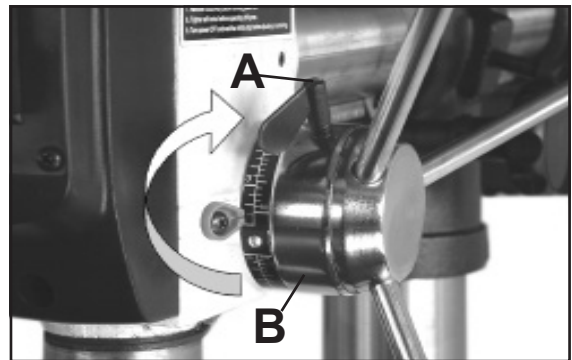

Figure 25
- Loosen the depth stop collar lock (A-Fig. 25) as shown.
- Turn the depth stop collar clockwise until the collar stops (B-Fig. 25).
- With the spindle in the up position, loosen the depth stop collar lock (A-Fig. 25) as shown.
- Turn the depth stop collar clockwise until the pointer reads the desired drill depth on the scale (B-Fig. 25).